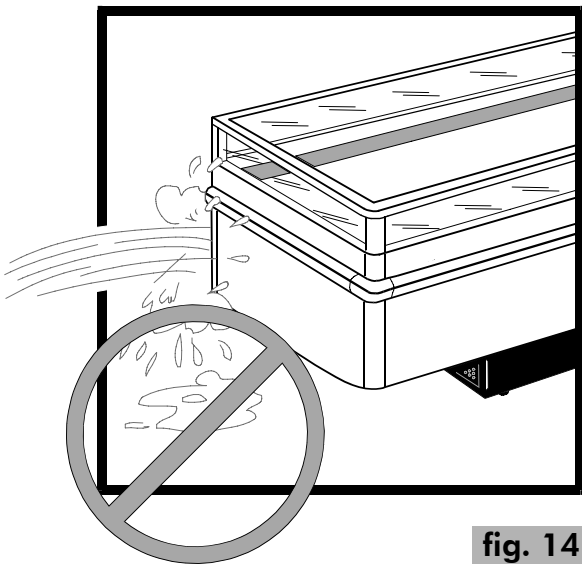

fig. 14
Do not spill water directly or indirectly on the display case (fig. 14). Do not touch the machine with damp or wet hands or feet; do not use it while barefoot (fig. 15).
1) Every week clean the outer surfaces of the display case only with mild soap or detergent in lukewarm water. Wipe carefully with a soft cloth. Never use solvents or scouring agents. NEVER CLEAN THE DISPLAY CASE BY THE USE OF WATER JETS (fig. 14).